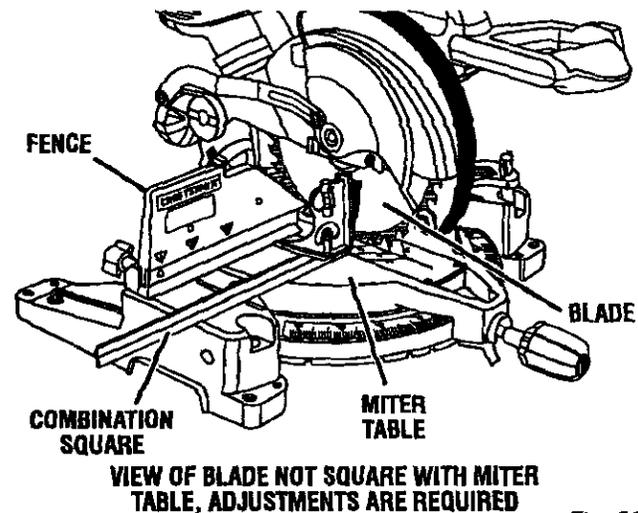

Fig. 30
- If the top or bottom of the blade angles away from the square as shown in figure 30, adjustments are needed.